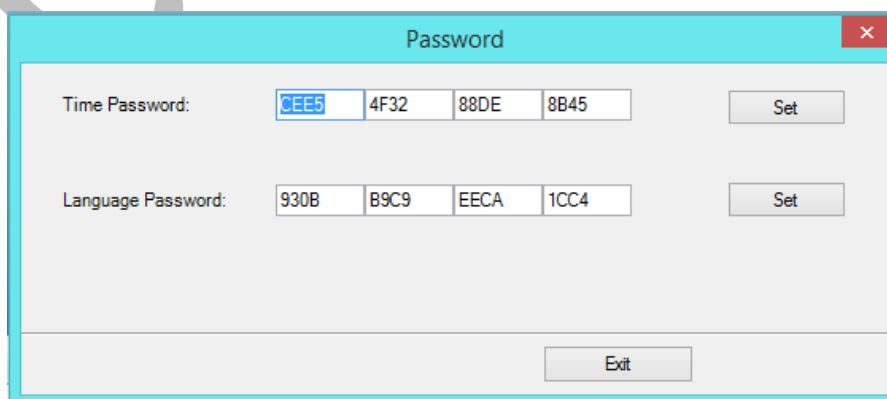

Fig 46: The Password Window
Step 2: Set values in the **Time Password** field as per the requirements (Refer to Fig 46).
Step 3: After feeding the passwords, *click* on the **Set** button in front of both the options (Refer to Fig 46).
Step 4: *Click* on the **Exit** button to close the **Password** window (Refer to Fig 46).
- Password Screen (Refer to Fig 46)